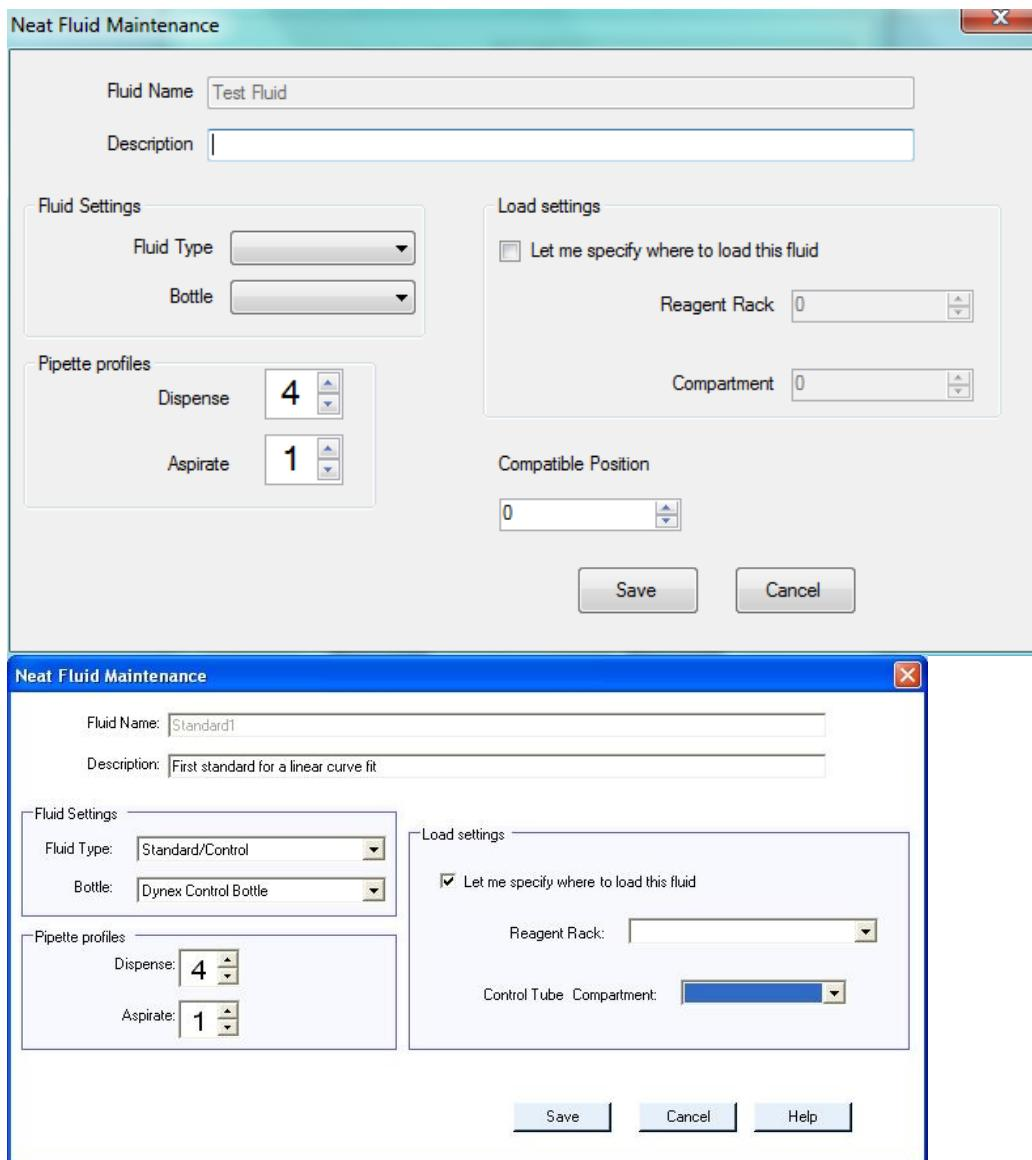

Figure 4-3: Neat Fluid Addition Screen
- c. Once the consumable name is entered, the data entry window opens (Figure 4-3 presents an example). Enter the required parameters.